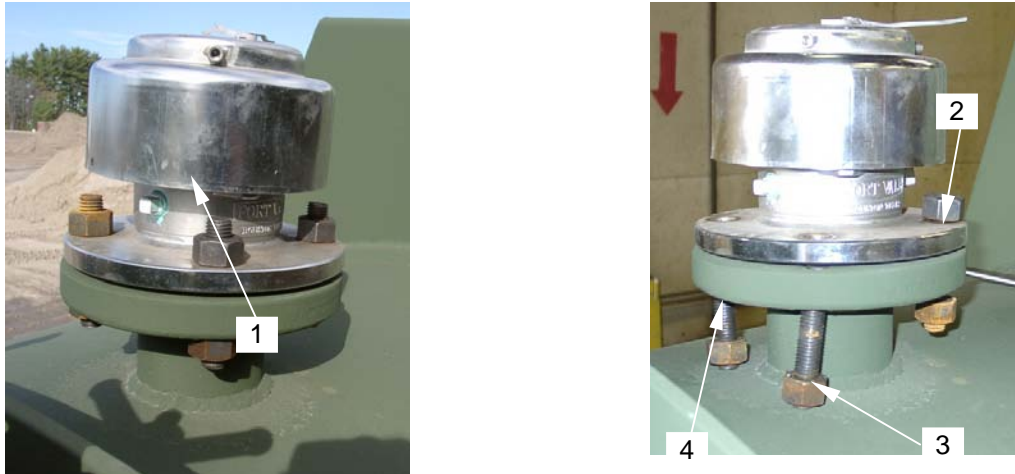

Figure 1. Safety Relief Valve and Mounting Hardware
1. Inspect the safety relief valve (**figure 1, item 1**) for damage, missing, or loose mounting hardware.
2. Loosen and remove the four hex nuts (**figure 1, item 2**) from the flange studs (**figure 1, item 3**).
3. Remove safety relief valve (**figure 1, item 1**) from flange (**figure 1, item 4**).